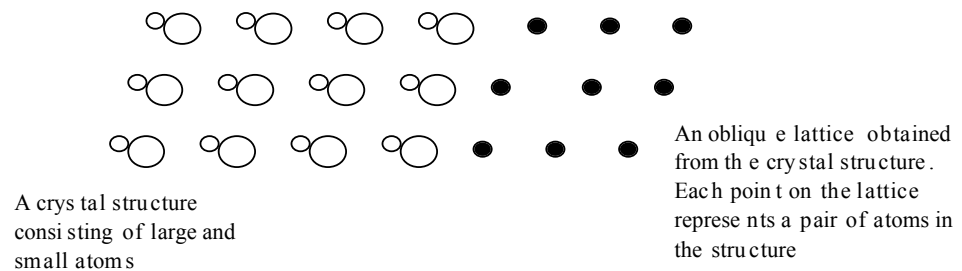

Figure 1.2 : A lattice constructed from a crystal structure
- Consider an example given in Fig. 1.2 of how a lattice is constructed from a crystal structure